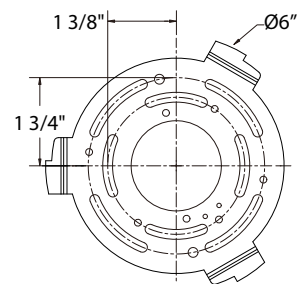

FIG. 3 Wiring
CONNECTING THE WIRES (Fig. 3, Fig. 4)
8. Connect the driver input wires to junction box as shown in Fig. 3. Making sure that all wire connectors (A) are secured. If your outlet box has a green or bare copper ground wire, connect the fixture's ground wire to it. Otherwise, connect the fixture's ground wire directly to the back plate using the GND screw provided.